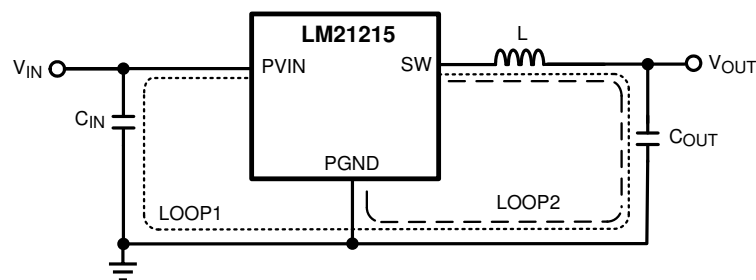

图 9-1. Schematic of LM21215 Highlighting Layout Sensitive Nodes
- Minimize area of switched current loops. In a buck regulator, there are two loops where currents are switched at high slew rates. The first loop starts from the input capacitor, to the regulator PVIN pin, to the regulator SW pin, to the inductor then out to the output capacitor and load. The second loop starts from the output capacitor ground, to the regulator GND pins, to the inductor and then out to the load (see 图 9-1). To minimize both loop areas, place the input capacitor as close as possible to the VIN pin. Grounding for both the input and output capacitor must be close. Ideally, a ground plane should be placed on the top layer that connects the PGND pins, the exposed pad (EP) of the device, and the ground connections of the input and output capacitors in a small area near pin 10 and 11 of the device. The inductor should be placed as close as possible to the SW pin and output capacitor.